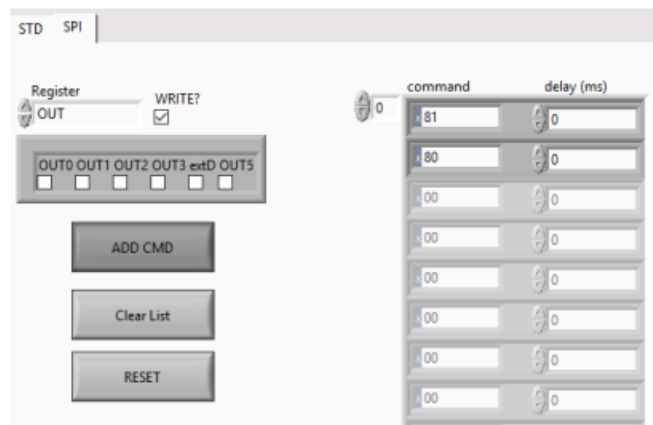

Figure 33 - Select no output and add command
- Select no output in the WRITE-Box and click ADD CMD (See Figure 33)